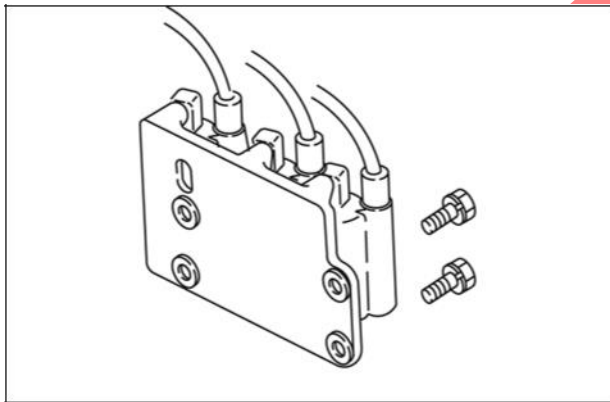

Figure 32
Install ignition coil bracket and ignition coils (Figure 32). Torque screws to values listed in Section 14 - Engine Specifications.
8. Install ignition coil bracket and ignition coils (Figure 32). Torque screws to values listed in Section 14 - Engine Specifications.